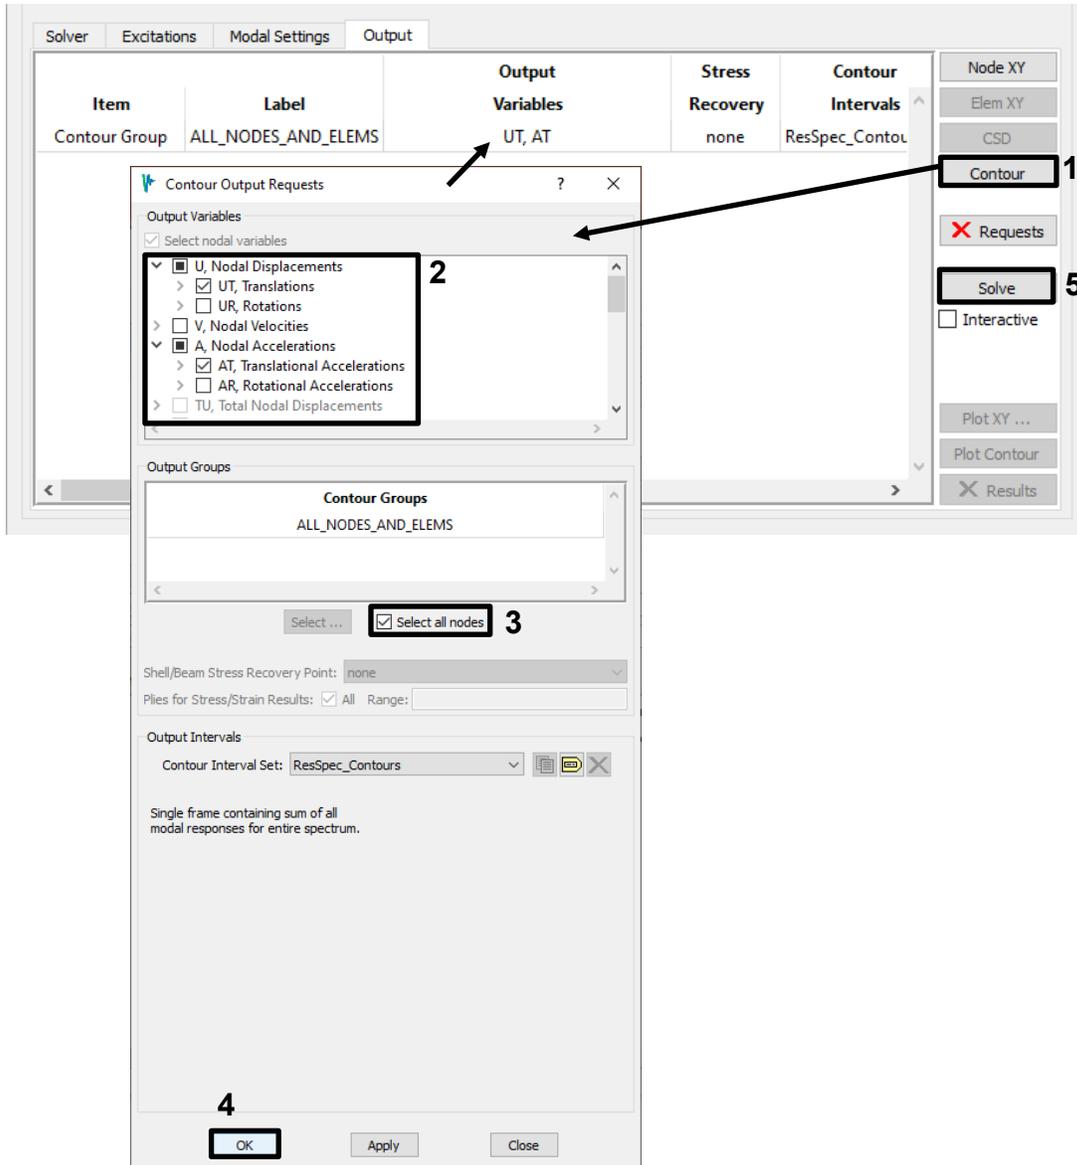

Figure 4-81. Request translational displacements and accelerations at all nodes.
- Go to the *Output* tab. Only contour output is available for response spectrum analysis, so create a contour request for displacement and acceleration (*UT*, *AT*) at all nodes (Figure 4-81). Note that the **Select nodal variables** toggle is checked and inactive; the normal modes solve did not request any elemental data. Solve the event but do not plot the contours at this time.